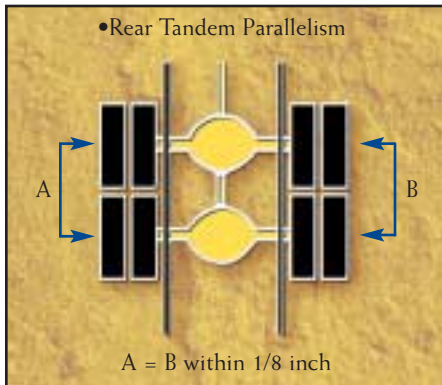

Figure 6.11
- Tandem axles should be parallel within 1/8-inch difference between the axles centers measured on the left and the right side of the vehicle. **Figure 6.11**